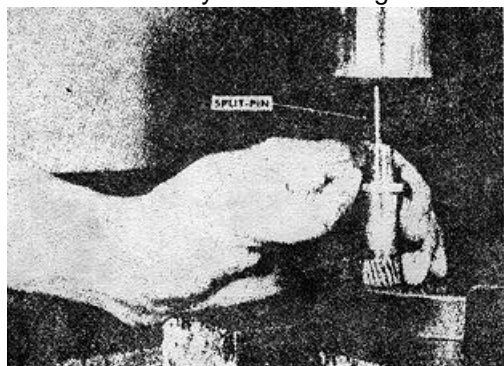

Figure 4-27. Pressing drive pin into position
3. If removed, press the tachometer split drive pin into the drive shaft. Fig. 4-27.